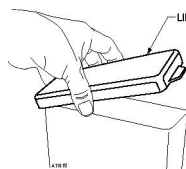

Figure 5e. Canister Lid
6. Remove lid from the canister. **Figure 5e**.
9. Replace canister lid. **Figure 5e**.